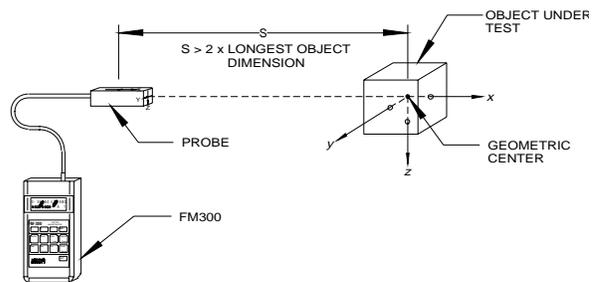

Figure 1 Starting position when measuring the magnetic moments of an object
- Place the object along the projection of the probe's X axis so that the distance, between the center of the object and the crosshairs indicating the center of the X axis sensor, is at least twice the length of the X dimension of the object (see Fig. 1). The greater the better.
- Rotate the object so the X, Y, and Z axes of the probe and the object coincide. The probe and object axes' arrows should be pointing in the same direction (see Fig. 1).